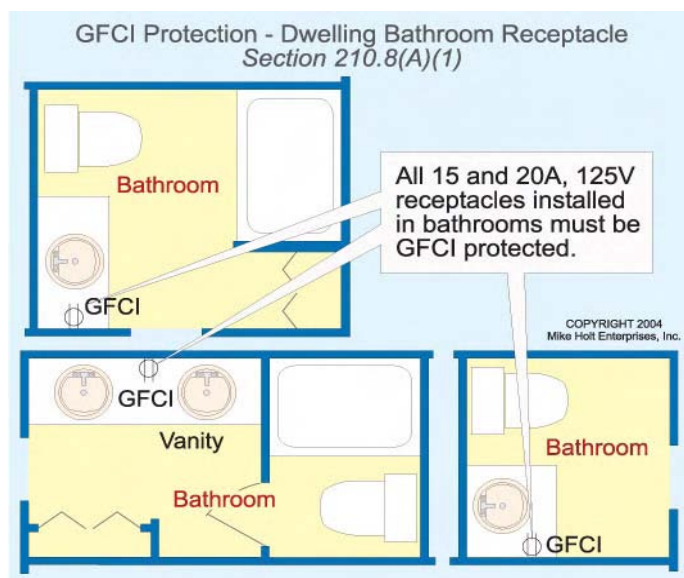

Figure 210-13
(1) Bathroom Area. GFCI protection is required for all 15 and 20A, 125V receptacles in the bathroom area of a dwelling unit. See 210.52(D) for acceptable locations for the required bathroom receptacle. **Figure 210-13**